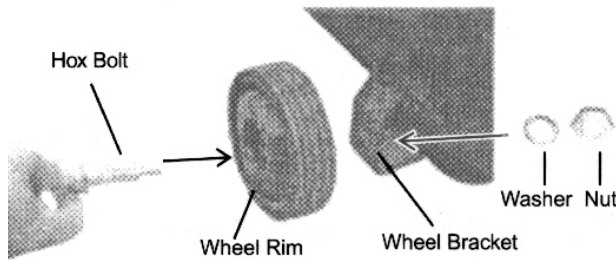

Fig 1
4. Repeat step 2 to 3 for remaining wheel. (fig 1)